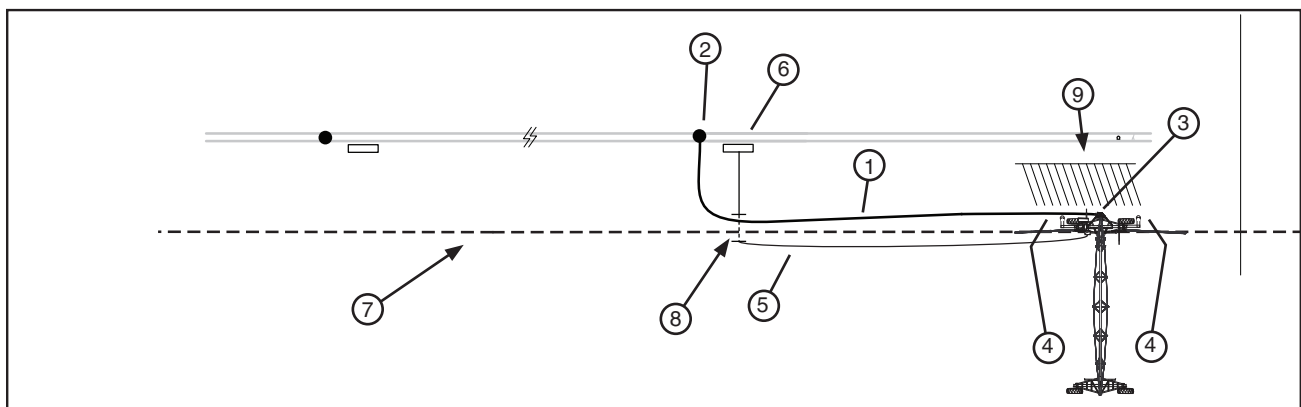

Figure 53-1 1. Hose 3. Swivel Inlet 5. Electric Cord (optional) 7. Furrow
- (b) Position the electric cord far enough away from the hose, so that the hose will not drag over it. To prevent interference between the electric cord, cart tires, furrow guidance system and hose, bury the electric cord in the area where interference will occur or when applicable, position the electric cord over the top of hose. See figure 53-1.